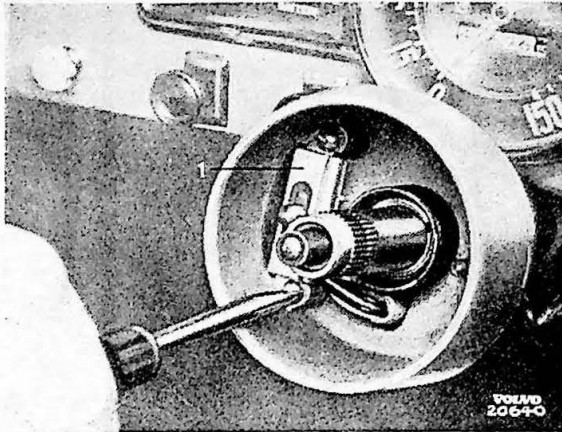

Fig. 19.
3. Remove the two screws which hold the switch (1, fig. 19) in the housing.